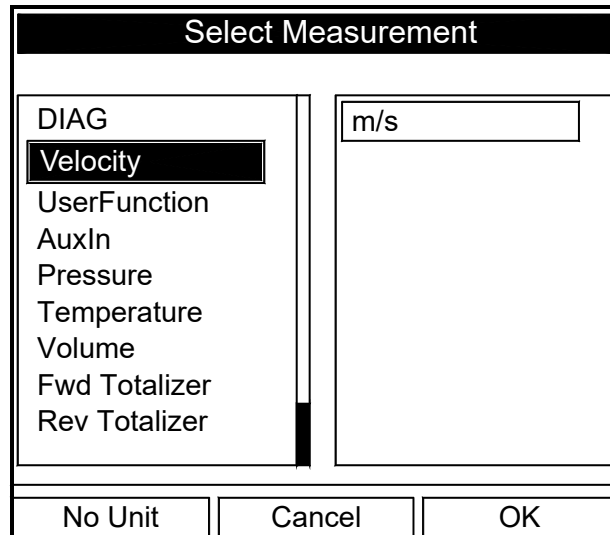

Figure 76: Select Measurement Window
1. Press **[ENTER]** to open the first entry. The Select Measurement window opens, as shown in Figure 76 below.
5. If you wish, scroll to the Select Measurements window (see Figure 76 on page 67) and follow the procedure discussed on page 67 to modify any parameters.